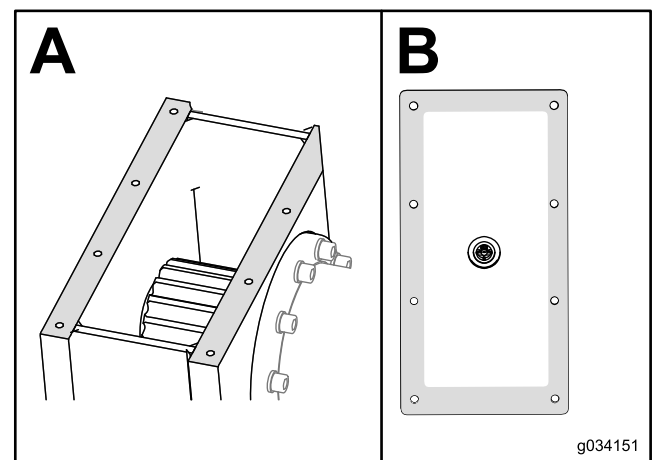

Figure 134
7. Clean the sealant off of the gearbox box and cover (Figure 134).
8. Put new automotive-grade RTV sealant around the edge of the cover (Box B of Figure 134).